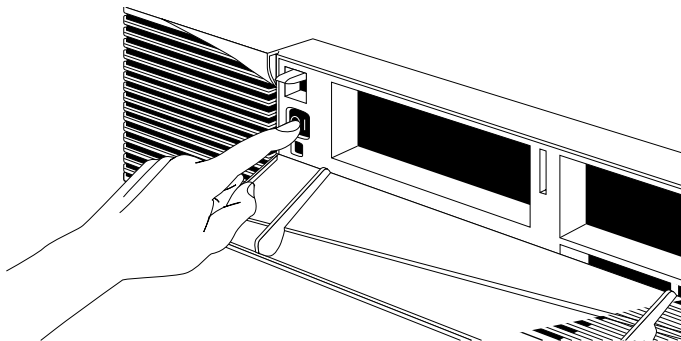

Figure B-2 Turning on the Indigo² Workstation
- Press the power switch to turn on the system, as shown in Figure B-2.